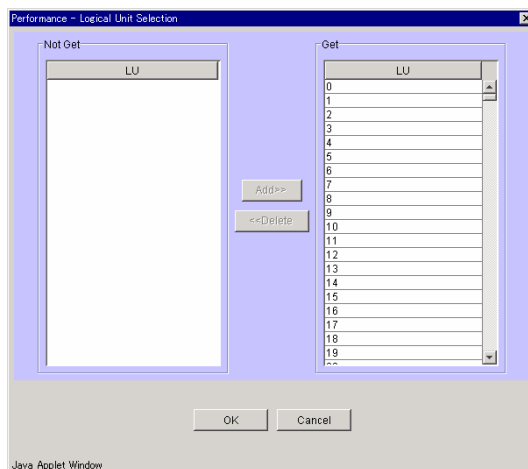

Figure 12.3 Performance - Logical Unit Selection
3. Specify the extent of the output using **Select**, excluding the **Cache** and **Processor**. When the extent is not specified, all is output. For example, when you want to specify an extent of information on the **Logical Unit**, select the **Logical Unit** icon, click **Select**, and specify the extent of the **Logical Unit**. See Figure 12.3.